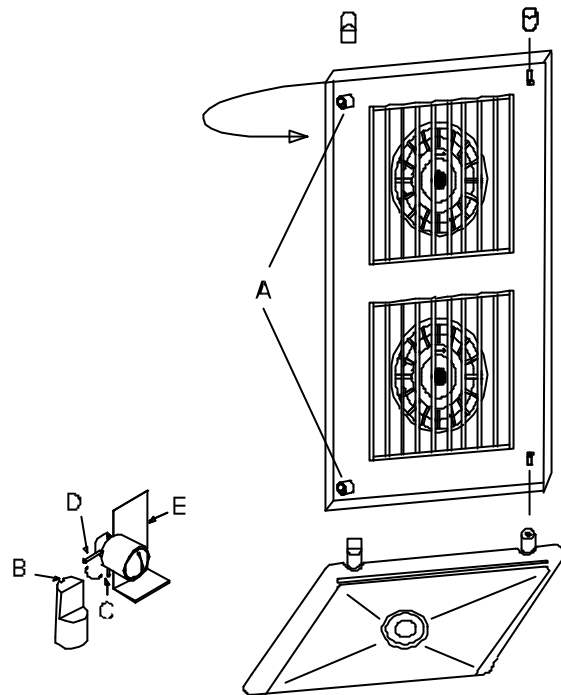

Figure 5g
- From the oven interior, turn 90° the two "A" screws by using a screwdriver. You should press the screw while turning it so that the fixing pin goes from the "CLOSED" (fig. 5g item C) to the "OPEN" (fig. 5g item D) position. Now you can pivot the fan cover panel.